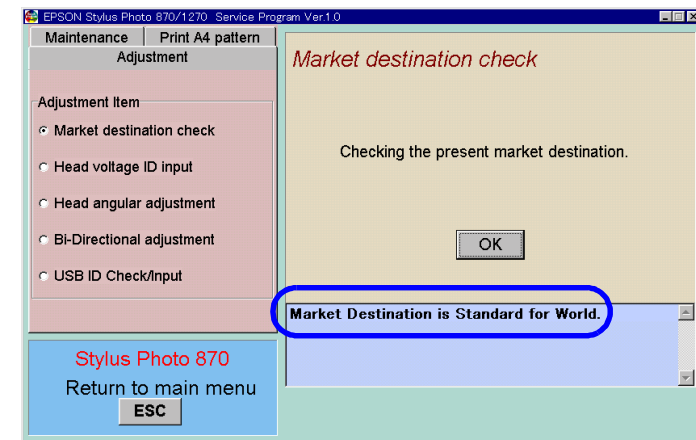

Figure 5-10. Market Destination Check Window Sample
- Click **OK** in the window. The destination appears in the small window as in the example in Figure 5-10.